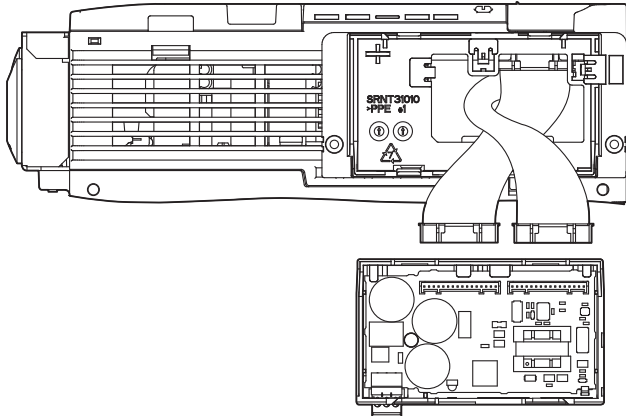

Figure 18 Cable Positioning (PS-V10M)
2. Confirm both cables are plugged in correctly according to **Figure 18**.
NOTICE: Connect the cables exactly as shown in Figure 18. Reversing the cable connections may damage the 24 V Power Supply Option.
3. Confirm both cables are plugged in correctly according to **Figure 18**.